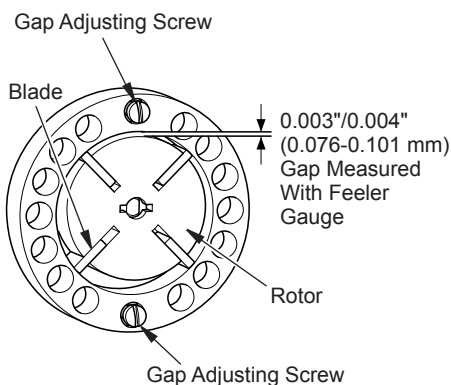

Figure 18 - Gap Adjusting Screw Locations
6. Remove rotor, insert, and blades (see Figure 18).
9. Check gap on rotor. Adjust to 0.076/0.101 mm (0.003"/0.004") if needed (see Figure 18).